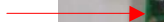

Figure 20: Gen. 3 vs. Gen. 4 Fan Controller Boards
- a. What generation of lamp fan controller board is installed? Select **Gen 3** or **Gen 4**. See Figure 20 for identification.
- a. What generation of lamp fan controller board is installed?: Select **Gen 3** or **Gen 4**. See **Figure 20** for identification.